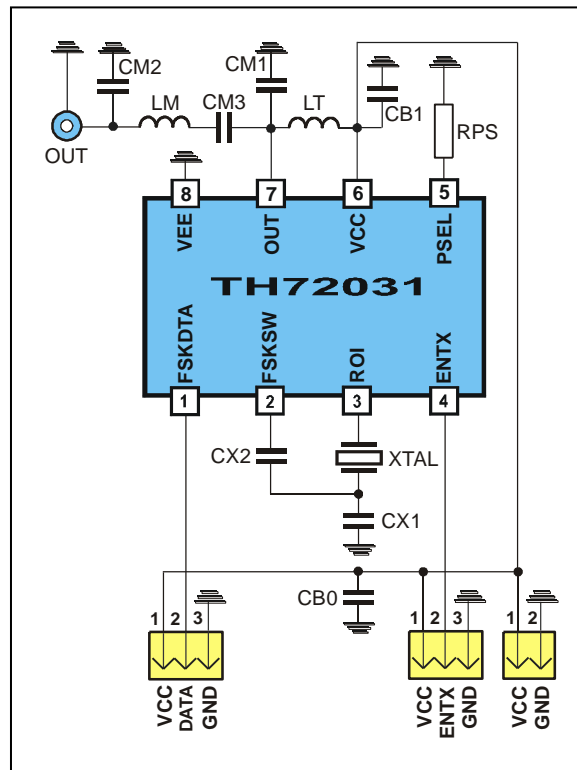

Fig.18: Test circuit for FSK with 50  $\Omega$  matching network
- Data according to test circuit in Fig. 18 (868.3MHz)
### 6.1. Test circuit component list to Fig. 18